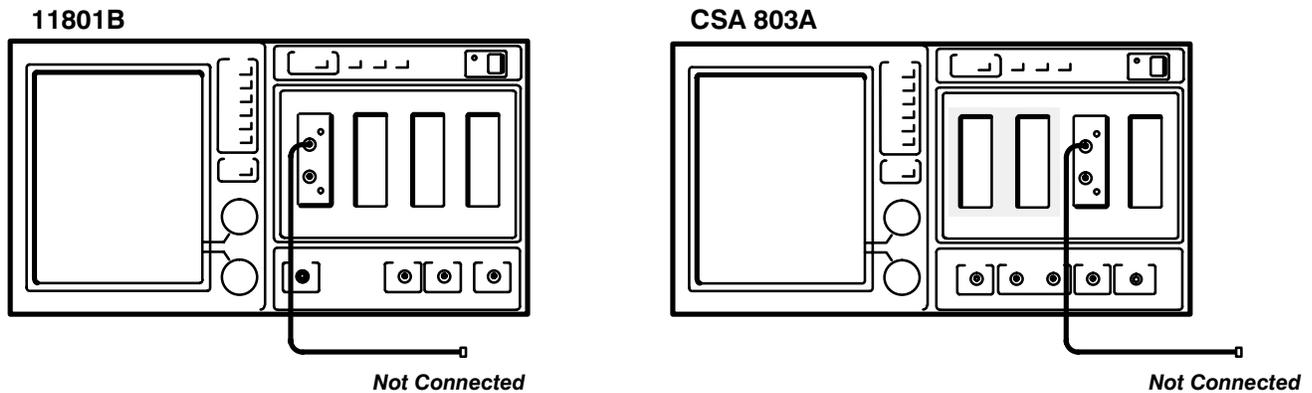

Figure 11: Connections for Example
- Step 3:** Attach one end of the cable to any SD-24 sampling head input. Leave the other end unattached. See Figure 11.